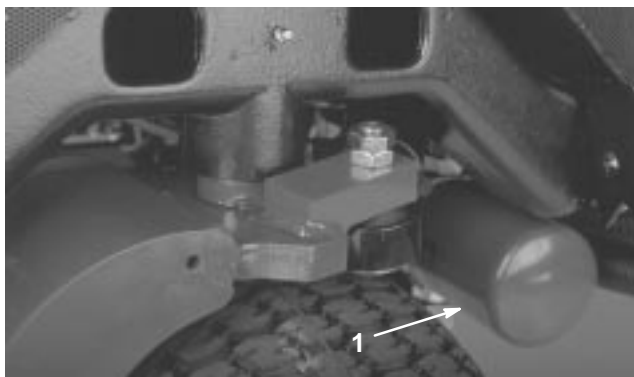

Figure 53
2. Disconnect the hydraulic line (Fig. 52) or remove the hydraulic filter (Fig. 53) and let the hydraulic fluid flow into a drain pan. Install the hydraulic line when hydraulic fluid stops draining.
3. Clean around the filter mounting area. Place a drain pan under the filter (Fig. 53) and remove the filter.